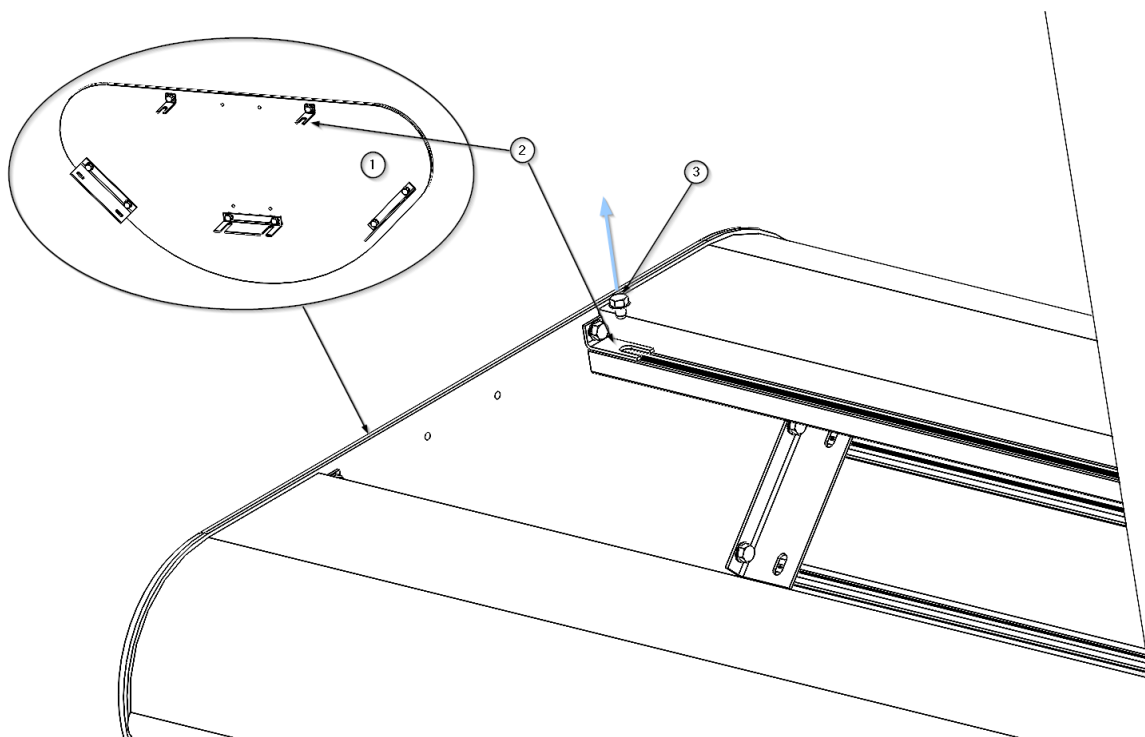

Fig. 3 Disassembly/assembly of end caps on ATLAS main body
- Unscrew the 2 M4 x 10 countersunk screws (1) DIN 935 using a Phillips screwdriver as shown in figure 3.
- Remove the polycarbonate cover (2) and store it in a safe place. The lighting module is visible.
- Remove the 4 socket head cap screws M5 x 10 (3) DIN 912 using an Allen tool. The lighting module is now loose.